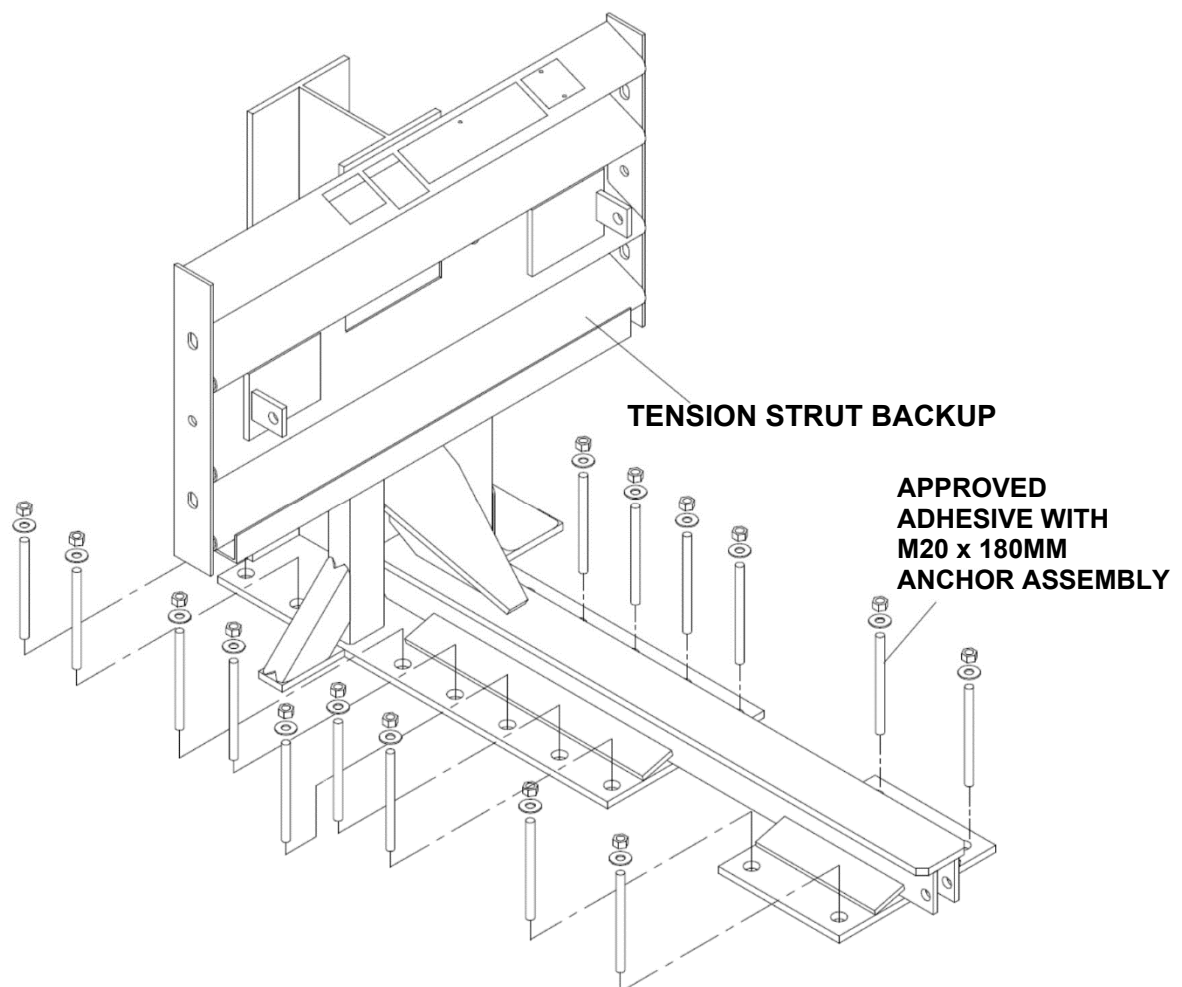
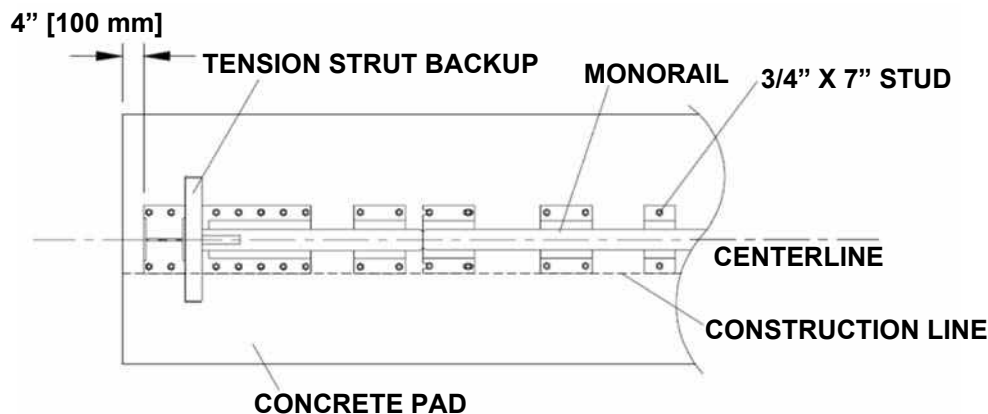

Figure 13
Figure 15
See Figure 13 (showing Backup Assembly) and Figure 15 (showing Monorail deployment). Also refer to the drawing package and the approved anchoring instructions (p. 15).
Step 1. Tension Strut Backup Assembly (Figure 13)
Locate the Monorail on the construction line as shown in the Monorail Assembly drawings. Drill 5 3/4" [146 mm] deep anchor holes using the Monorail as a template (Figure 15). Do not drill through the pad. Anchor each Monorail section using the provided approved adhesive kits.